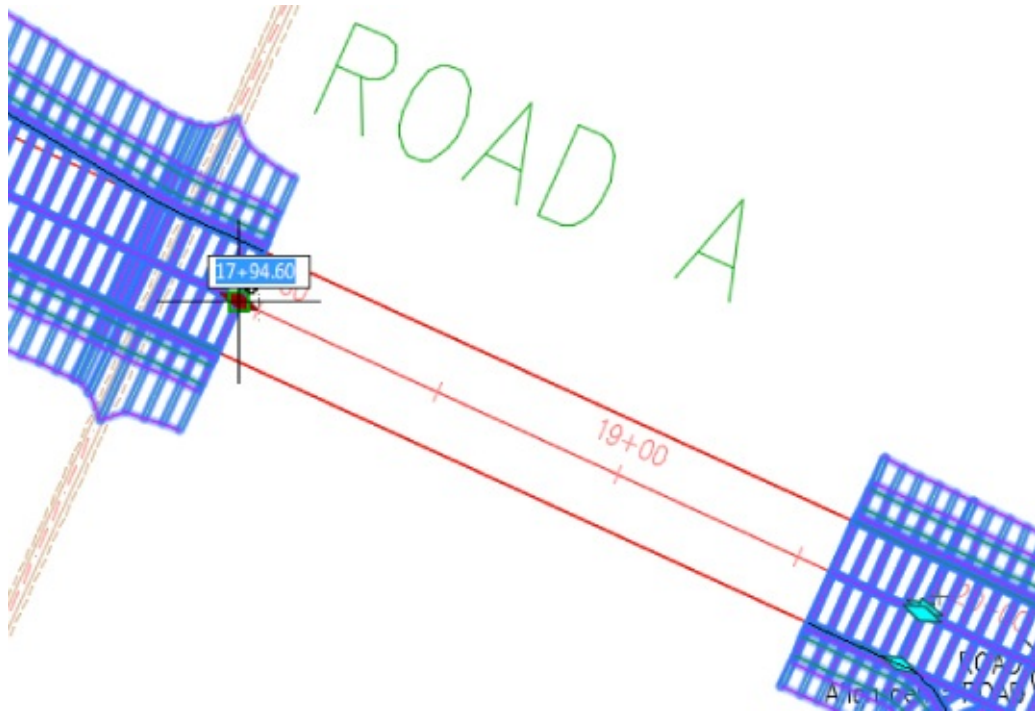

Figure 10.42 Defining the region start station
- c. At the Specify region start station prompt, snap to the diamond grip, as shown in Figure 10.42.